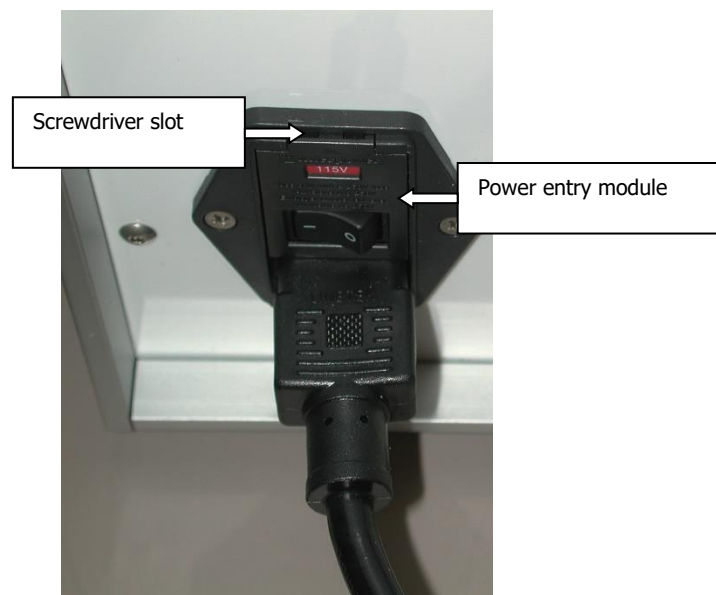

Figure 3. Fuse Replacement; Main Power
2. Remove the cover of the power entry module using a screwdriver in the screwdriver slot (see **Figure 3**).